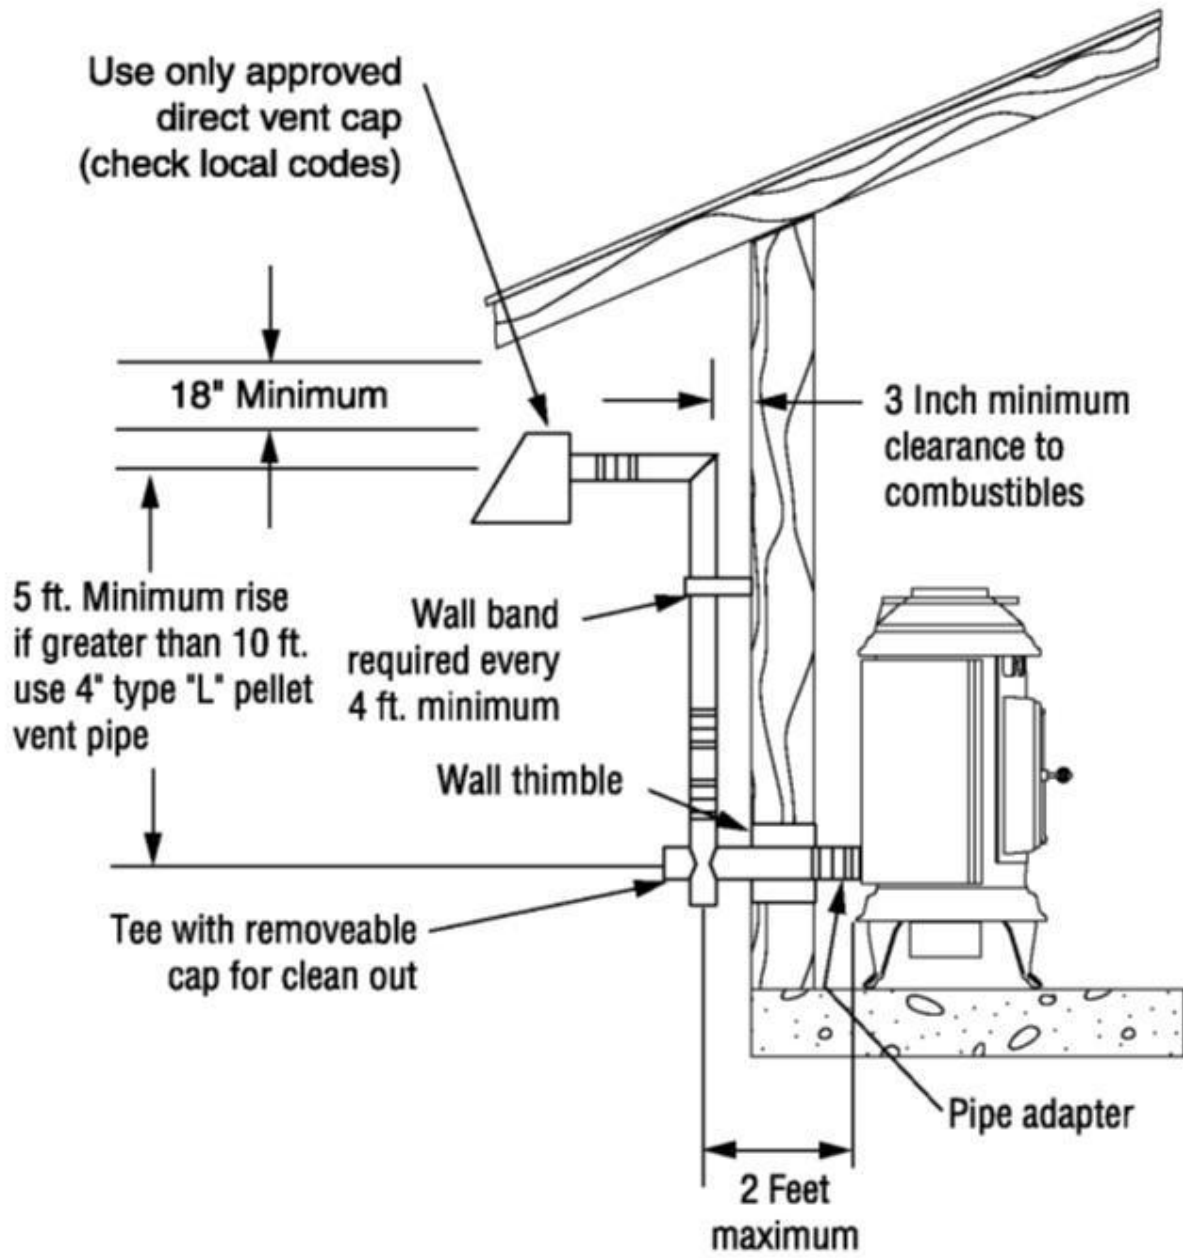

FIGURE 5
3. Connect a pellet vent tee with clean out cap and extend the vent pipe a **MINIMUM OF 5 FT VERTICALLY** maintaining a **MINIMUM 3"** clearance to combustibles with a square horizontal cap as shown in **FIGURE 5**.